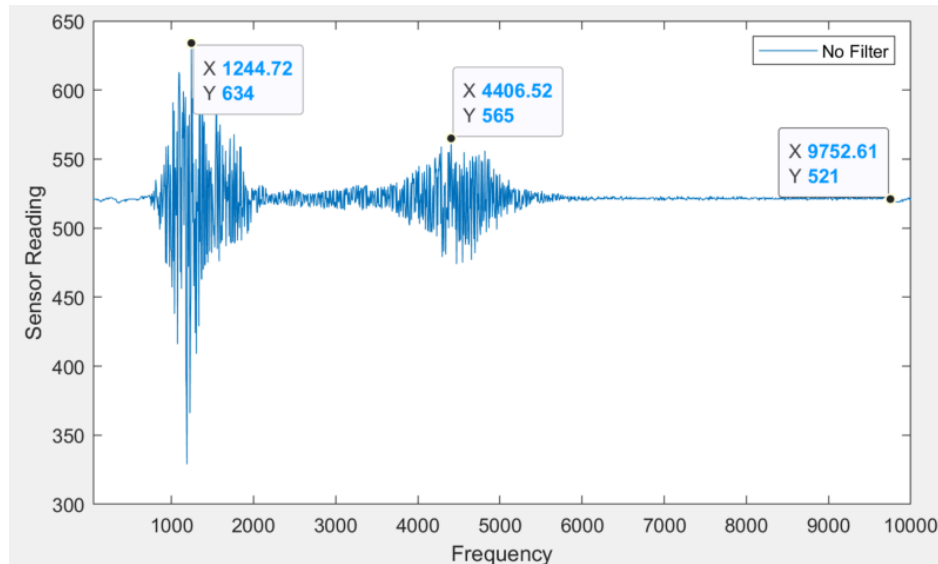

Fig. 2
When it's all set up, use the function generator to do a frequency sweep from 50 Hz to 10k Hz in 30s (linear frequency increase). **Log and the sensor readings**. The sensor reading collected will be similar to the one shown in Fig. 2. You need to plot the logged sensor readings in the saved csv file using the script you wrote in the prelab. **Note that you can take a quick look at the data you get by plotting a rough graph and leave the other time-consuming plotting adjustments required by submission after the lab. This way, you can save time for in-lab experiments.**
- Submit a figure similar to Fig. 2 when you do a frequency sweep without analog filtering. Once you complete this figure, please ask the TA to check it off during lab sessions or open hours.
- You need to convert the X axis from time to frequency of the signal as shown in Fig. 2. The X axis is approximately ranging from 50 to 10k Hz.
- You also need to clearly label on the figure the resonance points generating the largest positive deviations as well as a point that represents no-attack sensor readings, as shown in Fig. 2. (Although Fig. 2 has two such resonance points, you may have more and fewer.)
You need to approach output biasing by adjusting the frequency of your injection signal. Note you may not get complete DC outputs due to the instability of the cheap microcontroller's ADC. Try to inject signals as close to DC as possible. It is recommended that you start with a frequency close to the largest resonant frequency you found in question 1. For example, you can start with ~4400 Hz by referring to Fig. 2.